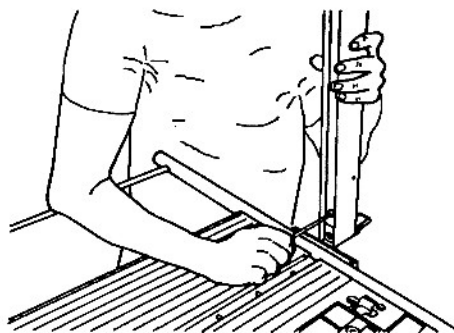

Fig. C-12
18. Slightly loosen the base knob. Rotate the rip fence upward and then securely tighten both base screws, as shown in Fig. C-12.